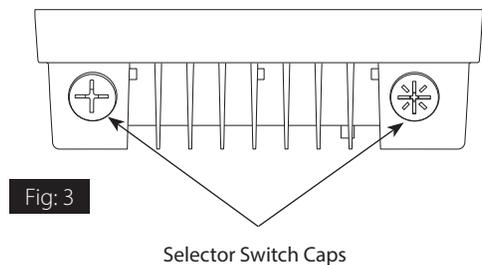

Fig: 3
1. Remove **Selector Switch Caps** by turning counterclockwise using a flat head screwdriver (*Fig. 3*).